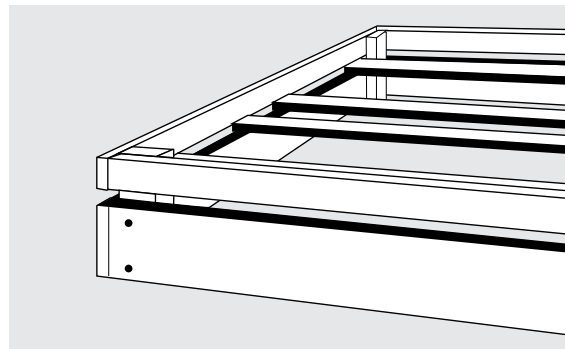

Figure 6: Bottom view of raft
- Following the illustrations, create the framework shown in Figure 6. With the frame structure upside down, nail on the four cross ties and the four skirt boards.